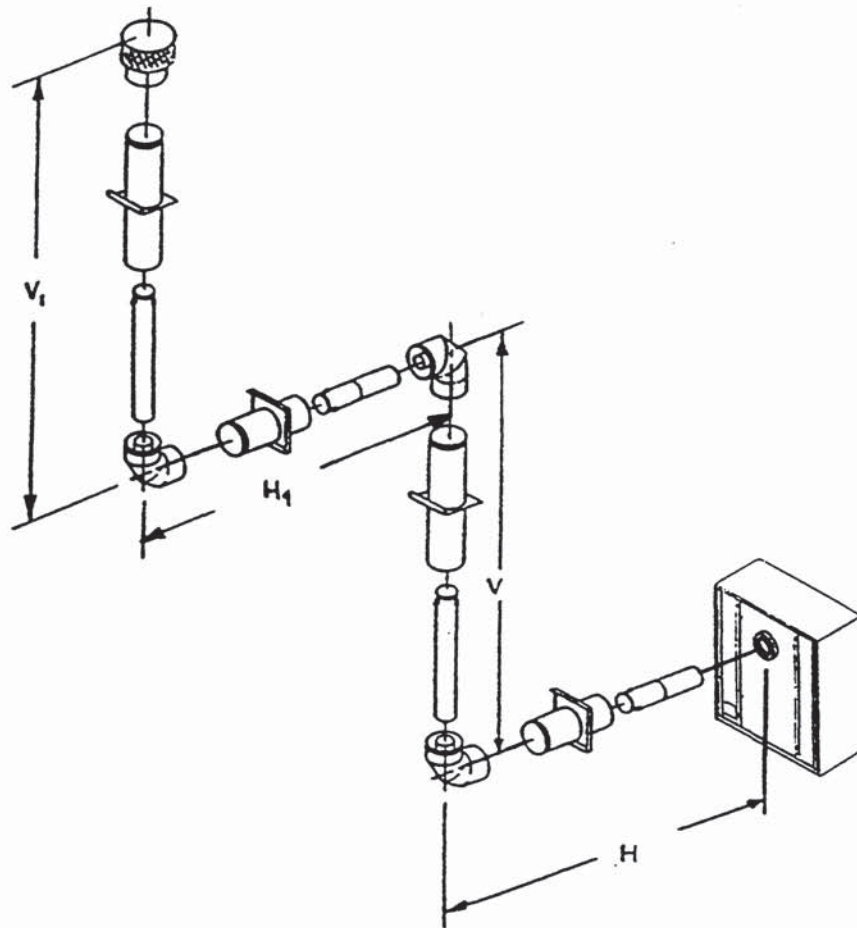

**FIGURE 8**
Figures 8 and 9 and Tables 5 and 6 show examples of possible installations using three (3) 90 degree elbows. Dimensions V are listed as **MINIMUM** vertical dimensions, dimensions H and H + H1 + H2 are listed as **MAXIMUM** horizontal dimensions. Three elbows can result in either a horizontal or a vertical termination.